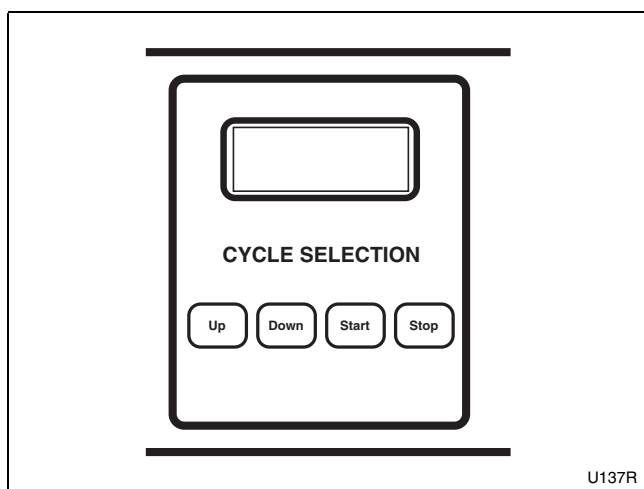

Figure 8
6. Press the Up or Down key to select wash cycle. Press the Start key. Refer to *Figure 8*.
8. **For non-coin models:** Press the Start key. Refer to *Figure 8*.